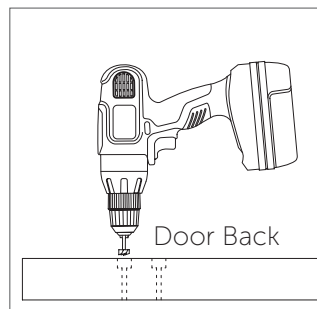

Figure 4
7. Turn the door over and using a 1-1/8" Forstner bit*, drill a 3/8" deep hole into each pilot hole (Figure 4).
8. Attach one end of the track to the wall with one lag screw, and one washer (provided) using a socket wrench with 9/16" socket. Do not tighten (Figure 4).